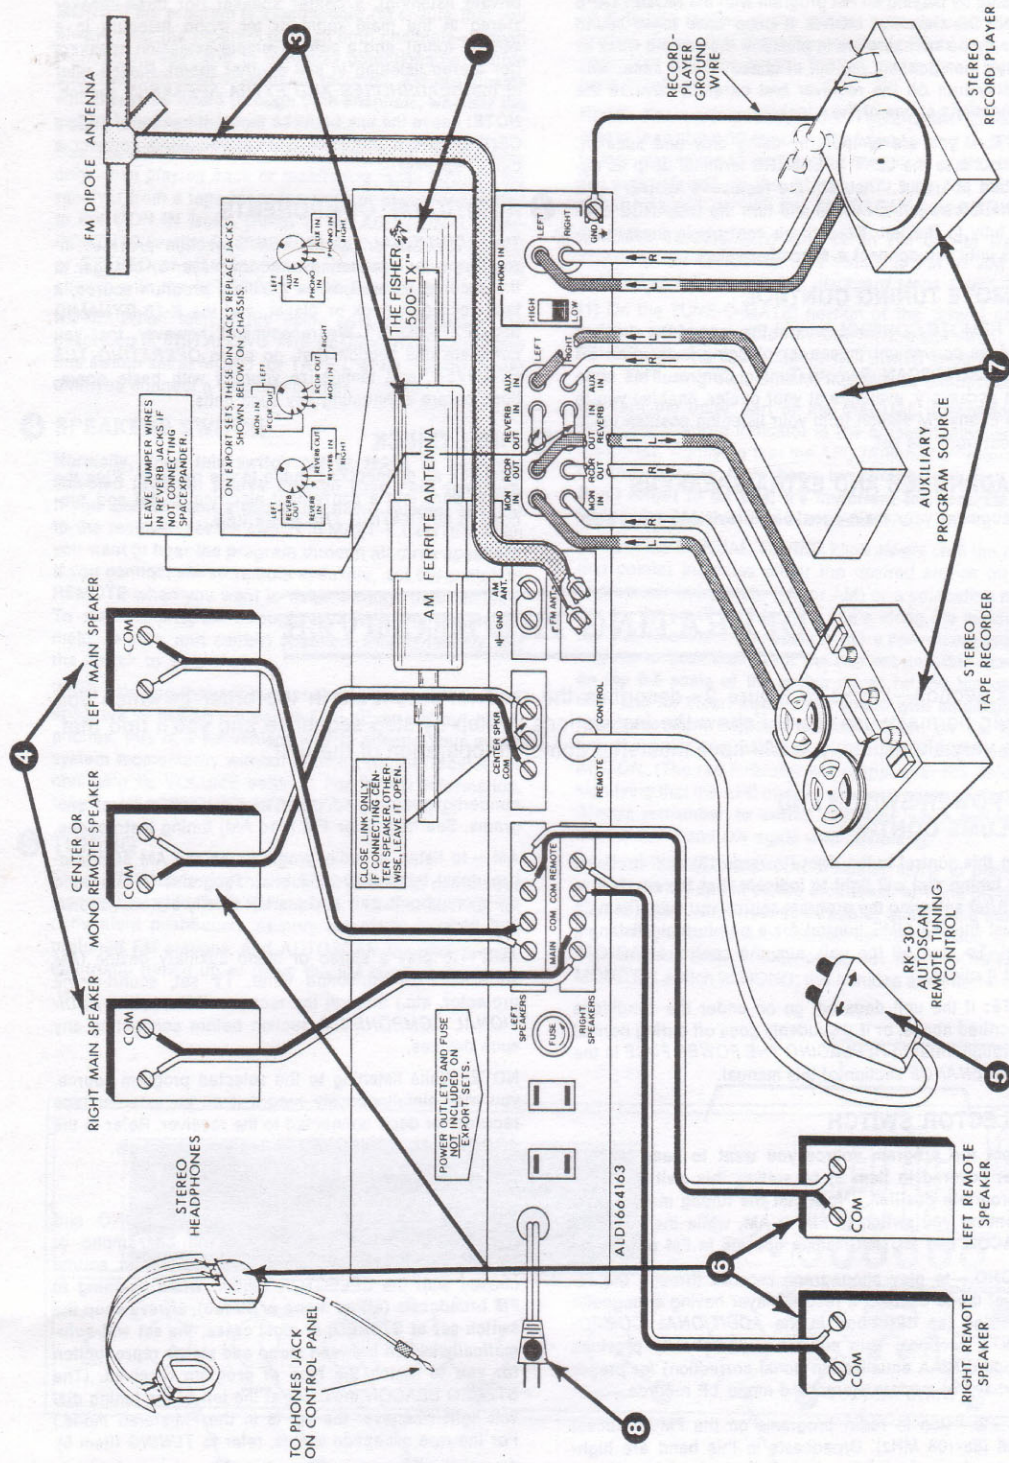

Figure 1. Receiver Connections
While installation is relatively simple, certain precautions must be observed. PLEASE KEEP IN MIND THAT OUR WARRANTY DOES NOT COVER DAMAGE CAUSED BY MISHANDLING, MISUSE, EXCESSIVE LINE VOLTAGE, OR INSUFFICIENT VENTILATION. We therefore urge you to follow the instructions in this section (keyed to Figure 1) carefully and in sequence; you may then proceed directly to the next section, *OPERATING THE RECEIVER*.
Remove the tape from the AM antenna and let it swing down into its receiving position. Keep all speaker, audio, and power cables away from this antenna and never use it as a handle. Unfold the 'T'-shaped antenna supplied with the unit and connect its spade lugs to the receiver's FM ANT. terminals as shown in Figure 1. Make sure that the lugs do not touch each other, adjacent terminals, or the receiver chassis. Fasten the antenna's short arms horizontally to a non-metallic surface such as a window, the rear surface of a cabinet or shelf, a wall, or (in some strong-signal areas) under a rug or carpet. Use masking tape until you determine the best antenna location on the basis of subsequent listening tests. Later, use metallic staples or tacks if you wish, but make sure that they don't cut or short-circuit the antenna wires. If the lead-in is too short to reach between the receiver and the desired antenna location, simply extend it with 300-ohm twin lead (the same material used for the antenna itself) which can be purchased at any electronic-parts dealer. Keep the extra lead-in as short as possible.
(c) Connect the speaker at the left your listening position to the receiver's LEFT SPEAKERS terminal strip (MAIN and adjacent COM terminal) and the speaker at your right to the RIGHT SPEAKERS terminal strip (MAIN and adjacent COM terminal). For correct stereo perspective and good bass response, make sure that the speakers are connected 'in phase' (each speaker's COM, GND, C, G, or black terminal connected to the receiver's corresponding COM terminal as shown in Figure 1).
**REDUCING MULTIPATH INTERFERENCE** — In some strong-signal localities, pronounced signal reflections from surrounding buildings, towers, or hills may cause severe multipath interference. (This phenomenon is similar to 'ghosts' in TV pictures and can cause distortion, 'fuzziness', and reduced left-right separation in FM-stereo broadcasts.) In such cases, it may be necessary to replace the dipole antenna with an indoor 'rabbit-ears' or telescoping-dipole antenna that can be rotated for best reception of the desired signal and maximum rejection of the unwanted reflections. (This type of antenna is available at most electronic-parts dealers.) Disconnect the dipole antenna from the FM ANT. terminals (Figure 1) and connect the rabbit-ears antenna in its place, making sure that the antenna lugs or wires do not touch each other, adjacent terminals, or the receiver chassis. Tune in several FM stations and rotate the antenna for best reception in each case.
and most FM signals in your area come from the same general direction as the TV signals, the antenna may prove suitable for FM reception as well. To test it, disconnect the dipole antenna from the FM ANT. terminals (Figure 1) and connect the TV antenna in its place, making sure that the antenna lugs or wires do not touch each other, adjacent terminals, or the receiver chassis. If the results are satisfactory, obtain a two-set antenna coupler so that you can operate both the TV set and the receiver from the antenna simultaneously.
AM antenna for improved reception of weaker stations, loosen the AM ANT. and GND screws (Figure 1) and swing the link between them out of the way. Retighten the GND screw and connect 10 to 20 feet of insulated, flexible, single-conductor wire to the AM ANT. terminal. Keep this wire away from all speaker, audio, and power cables. Run the wire in a straight line along a *non-metallic* baseboard or under a rug. In some cases, reception may be further improved by draping the wire out a window or by connecting it to an outdoor whip or rod antenna.
The receiver's CENTER SPKR terminals (Figure 1) will provide a *monophonic* speaker output (with the link between the right-hand and middle terminals closed) whenever you set the SPEAKERS switch to MAIN + CENTER or to ALL. This output is a blend, or composite, of the left- and right-channel signals and may be used for either one of two purposes: